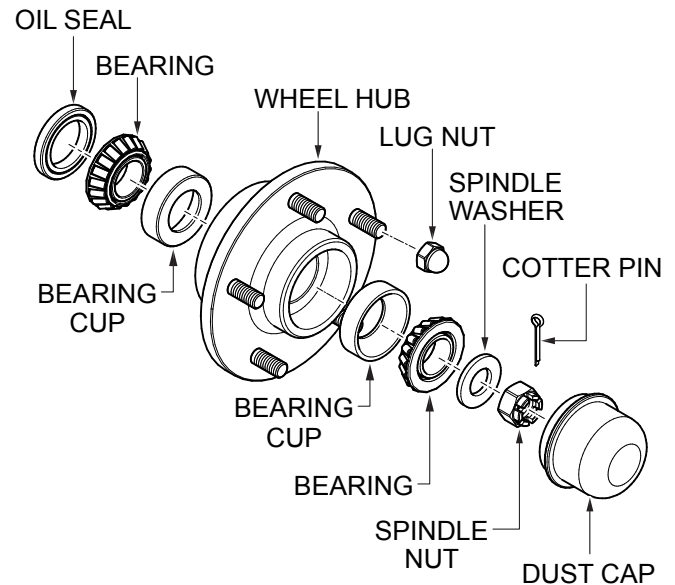

Figure 42. Wheel Hub Components
**Wheel bearings** (Figure 42) must be inspected and lubricated once a year or every 12,000 miles to ensure safe operation of your trailer.
Follow the steps below to disassemble the wheel hub and service the wheel bearings. See Figure 42.